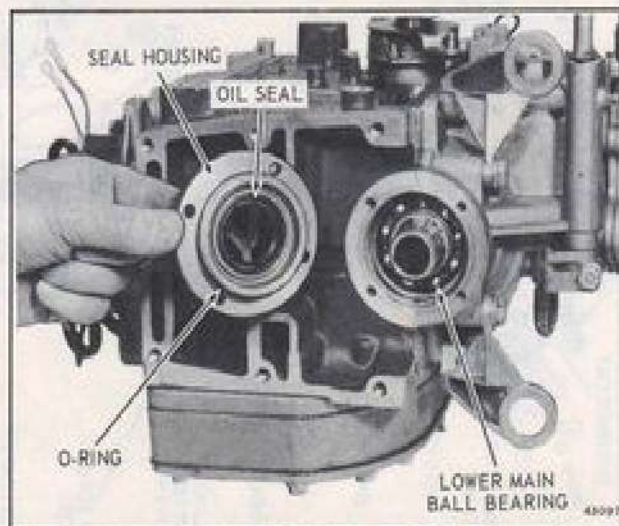

Figure 5-15. Lower Main Bearing Seal Housing
a. Remove the lower main bearing seal housing. See Figure 5-15.